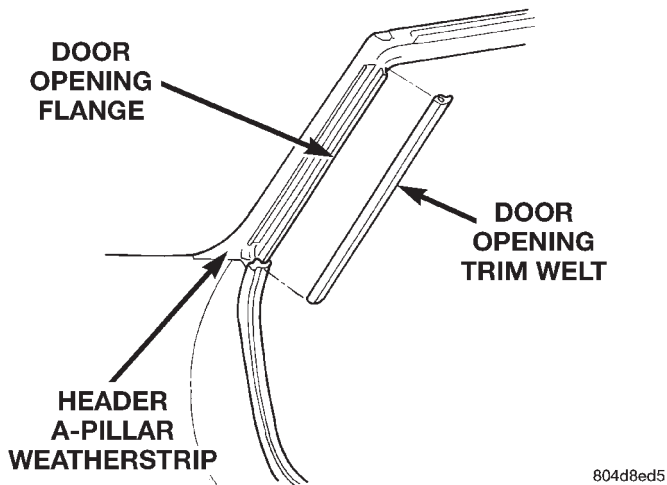

Fig. 50 Door Opening Trim Welt
- (1) Using trim stick, special tool C-4755, remove one end of door opening trim welt from door opening flange.
- (2) Separate welt from vehicle (Fig. 50).